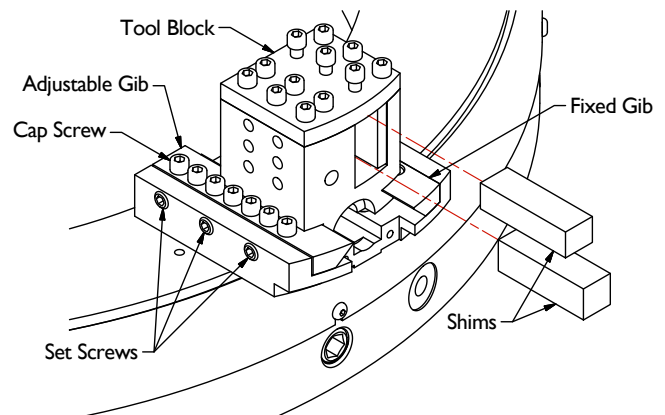

Figure 15 - Adjust Gibs
2. Install shims into the tool block to simulate a tool bit. Tighten the tool bit retaining screws. Replace the tool block only (without feed screw assembly) into the slide. Tighten the set screws on the side of the slide 1/4 turn. Loosen the cap screws on top of the adjustable gib if necessary. Move the tool block in the slide. There should be no slop and no binding. Continue to adjust set screws as necessary so that the tool block slides smoothly. The tool block must move easily with slight resistance, with no slop or binding. Resistance must be the same along the entire length of the slide. It may be necessary to move the tool block by tapping with a deadblow hammer (included in the hand tool kit). Adjust set screws as necessary. Tighten the cap screws on top of the adjustable gib. See Figure 15.